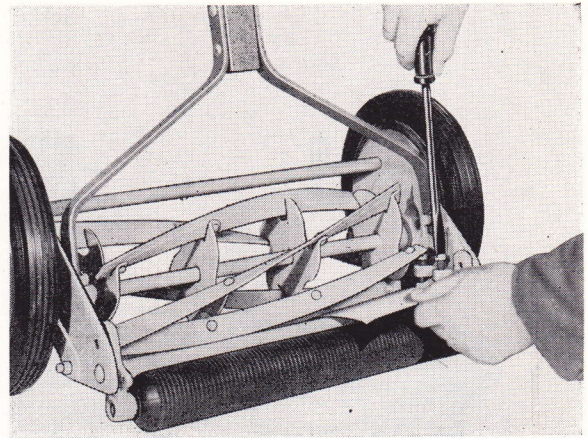

Fig. 13
69. The bed knife must now be adjusted to the reel blades in preparation for grinding the reel blades. It must not touch the reel blades as the reel must be free to turn while grinding, yet it should be set as closely as possible to the reel blades. We recommend that a double thickness of paper or a calling card be used to make this adjustment. Insert the card or paper between the bed knife and the highest reel blade (if any one blade extends out further than the rest) and tighten the adjusting screws until this blade just pinches the paper at both ends of the bed knife. See Fig. 13. It is essential that you have the adjusting screws at this point set just as tight as you want to set them later for grass cutting. The reason for this, and the secret of our hook grinding principle, is that practically all bed knives distort or spring, under the pressure of the adjusting screws and if this distortion is not the same when the reel is being ground as it will be when the mower is cutting grass, there may not be perfect cutting contact between each reel blade and every point of the bed knife. This distortion usually causes the bed knife to bow out in the center and increased pressure would cause it to bow out further, therefore with cutting contact at either edge of the bed knife there would not be cutting contact at the center.
89. Before removing the mower from the Peerless, especially a hand mower, take a hand file and taper or round slightly the ends of each reel blade. This will aid in adjusting the bed knife and will prevent any clicking that some mowers tend to have at the ends of the reel blades. Later you can use the grinding head controlling it by hand to relieve the ends of the reel blades. If you have ground a hand mower, remove it from the machine and place it on a bench for final adjustment. If you have ground a power mower, leave it in the sharpener for final adjustment even though it seems a bit awkward to reach the adjusting screws. In making the final adjustment of the bed knife to cutting contact with the reel blades, remember that the pressure of the adjusting screws must be maintained so that the shape of the bed knife will not be changed. In moving the bed knife up to the reel blades with the opposed type of adjusting screws, remove a little pressure from the front screws and add the same amount to the rear screws. The bed knife should be brought up in this manner by steps until reel blades begin to strike. Once contact is made, insert a piece of paper between the blades as shown in Fig. 13 and turn the reel backwards so the reel blades pinch the paper from behind the bed knife. When you have the bed knife adjusted properly, the reel blades will shear or mark the paper the same at both ends or at any point. If one end shears the paper and the other end merely marks it, the marked end is not adjusted as close